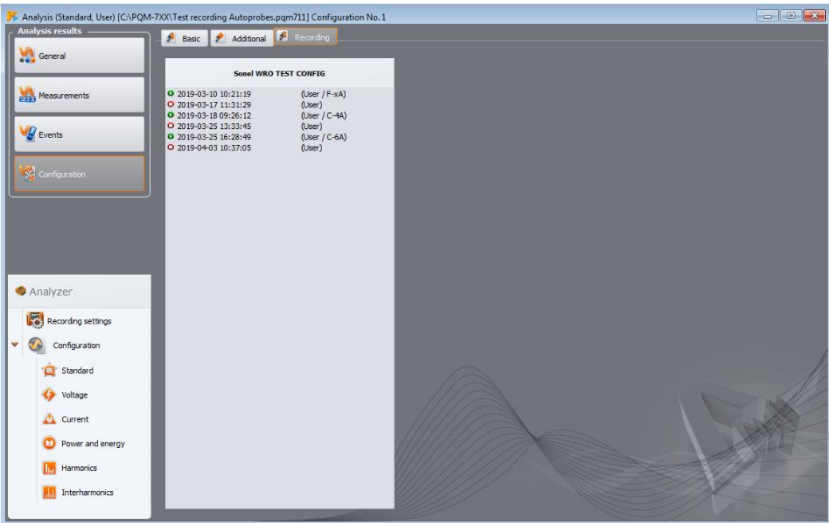

Fig. 73. Configuration view - list of the recording periods with the assigned current probes.
- all recording intervals with date/times and assigned probes (Fig. 73),